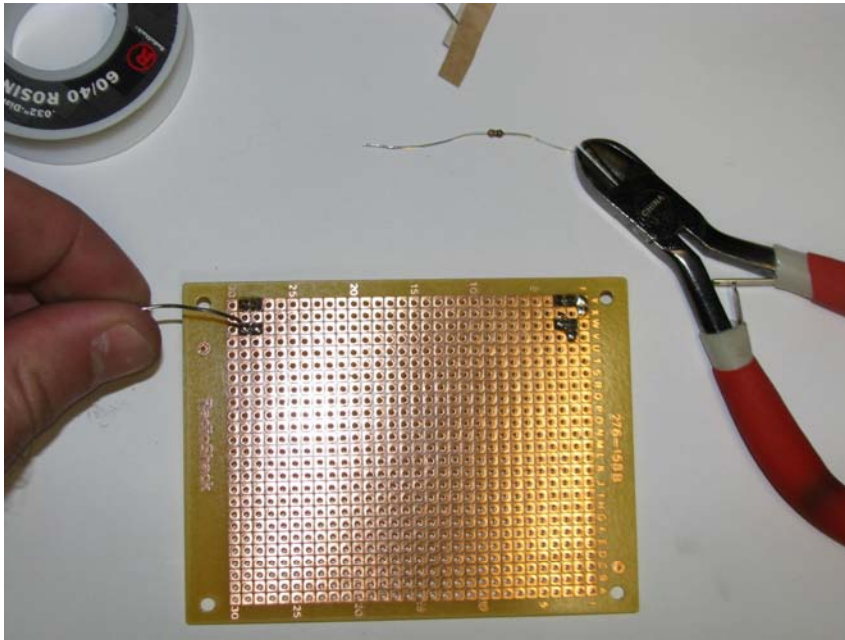

Figure 4-9. Soldering each sensor into place on the prototyping board
2. After placed, solder each lead to the PCB to secure it down as shown in Figure 4-9. To avoid overheating any one sensor, it is recommended to solder the first leg of each sensor, then go back to the beginning and solder the second leg of each sensor, and so on. This gives each sensor some time to cool down between soldering each leg to the prototyping board.